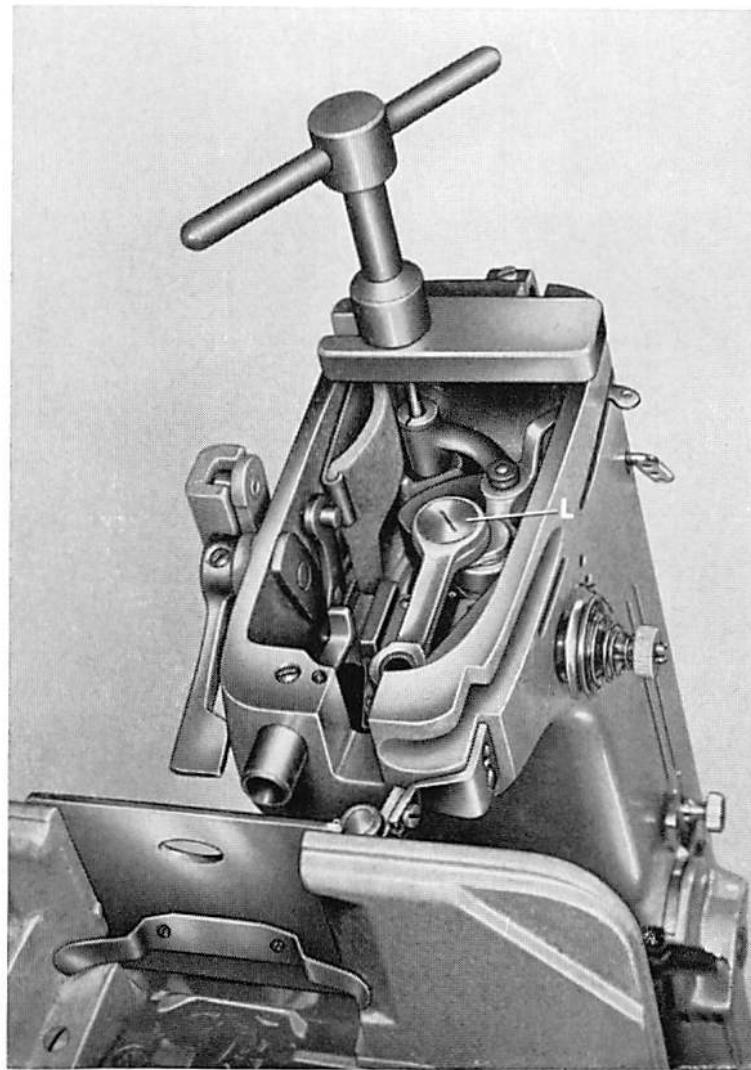

Fig. 34
8. Place the bar of the pull-off device across the face side of the machine, as shown in Fig. 34. Insert the threaded end of the pull-off device through the hole in the bar, screw it into the hollow hinge stud of the take-up link and, in this way, pull the hinge stud out of its mount. (The pull-off device is available under No. 880141/00 and will be supplied at extra cost.)
Note that end screw L (Fig. 34) must be turned right to loosen it because it has left-hand thread.